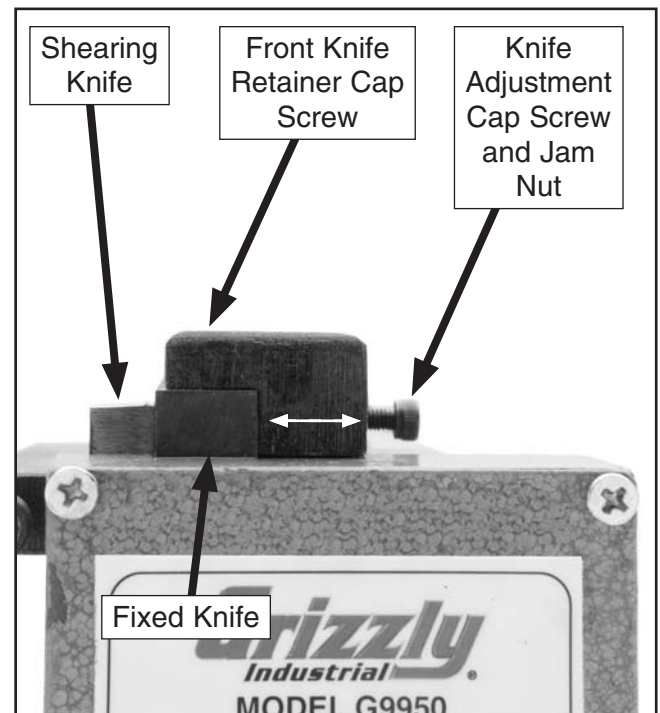

Figure 35. Knife adjustment.
3. Using the 4mm hex wrench, loosen the front knife retaining cap screws (**Figure 35**) on both sides of the shear.
4. Using the 3mm wrench, loosen the three knife adjustment screw jam nuts (**Figure 35**).
5. Using the 4mm hex wrench, tighten or loosen the three table knife adjustment screws (**Figure 35**) to move the fixed knife into correct adjustment with the shearing knife.